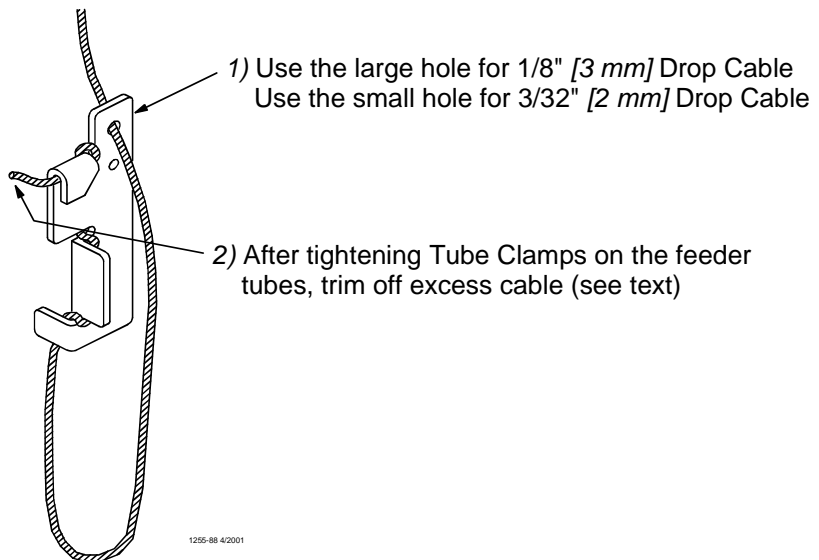

Figure 26. Cable Lock Threading
6. Install Adjustment Leveler within 6" [152 mm] of feeder line. **Figure 26** shows the proper cable routing around the Adjustment Leveler.
Finally, tighten the Tube Clamps on the feeder tubes. Clamp the joints securely, but do not crush the tubes. Re-adjust all Adjustment Levelers as needed and trim off excess cable as shown in **Figure 26**.